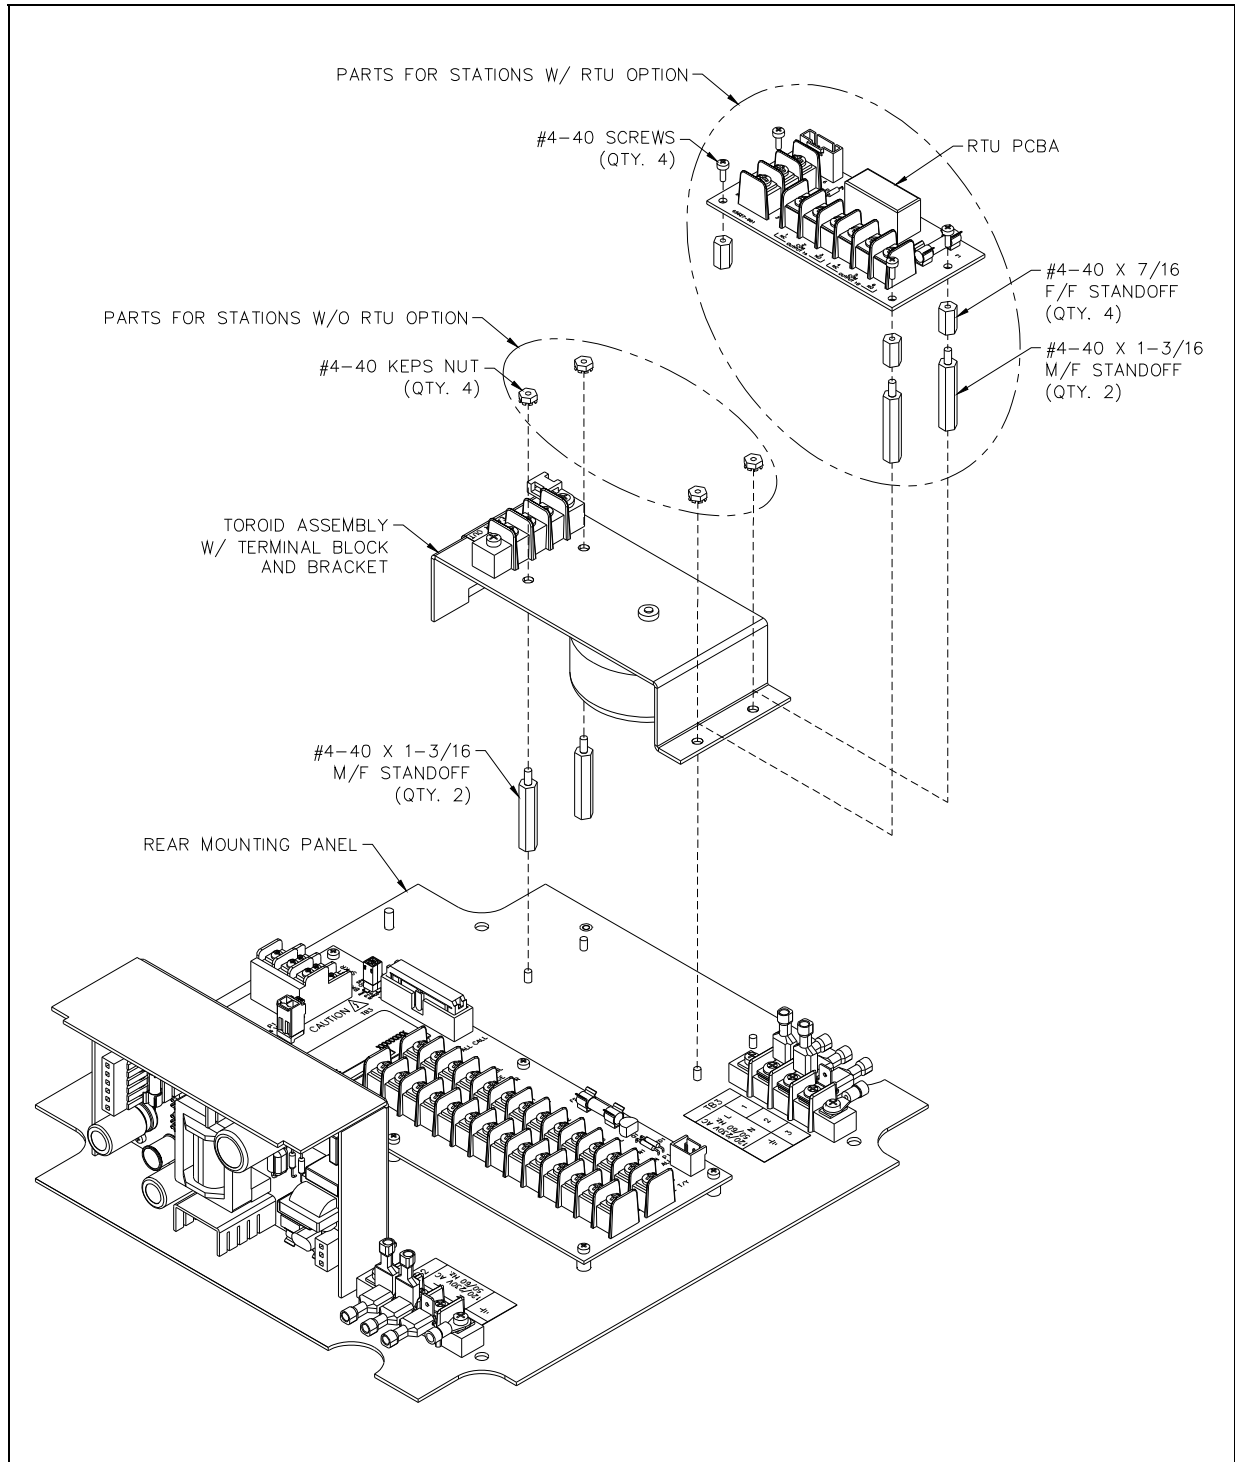

Figure 2. 70V/ 100V Assembly
5. Attach two of the 4-40 × 1-3/16-inch male/female standoffs to the rear mounting panel. Attach the bracket and toroid assembly to the rear mounting panel using the four 4-40 keps nuts if there is no RTU option. See Figure 2.
6. If there is an RTU option, attach the bracket with two more 4-40 × 1-3/16-inch male/female standoffs. Use the four 4-40 × 7/16-inch female/female standoffs to secure the bracket. Re-attach the RTU PCBA to the standoffs and bracket using the 4-40 screws. See Figure 2.